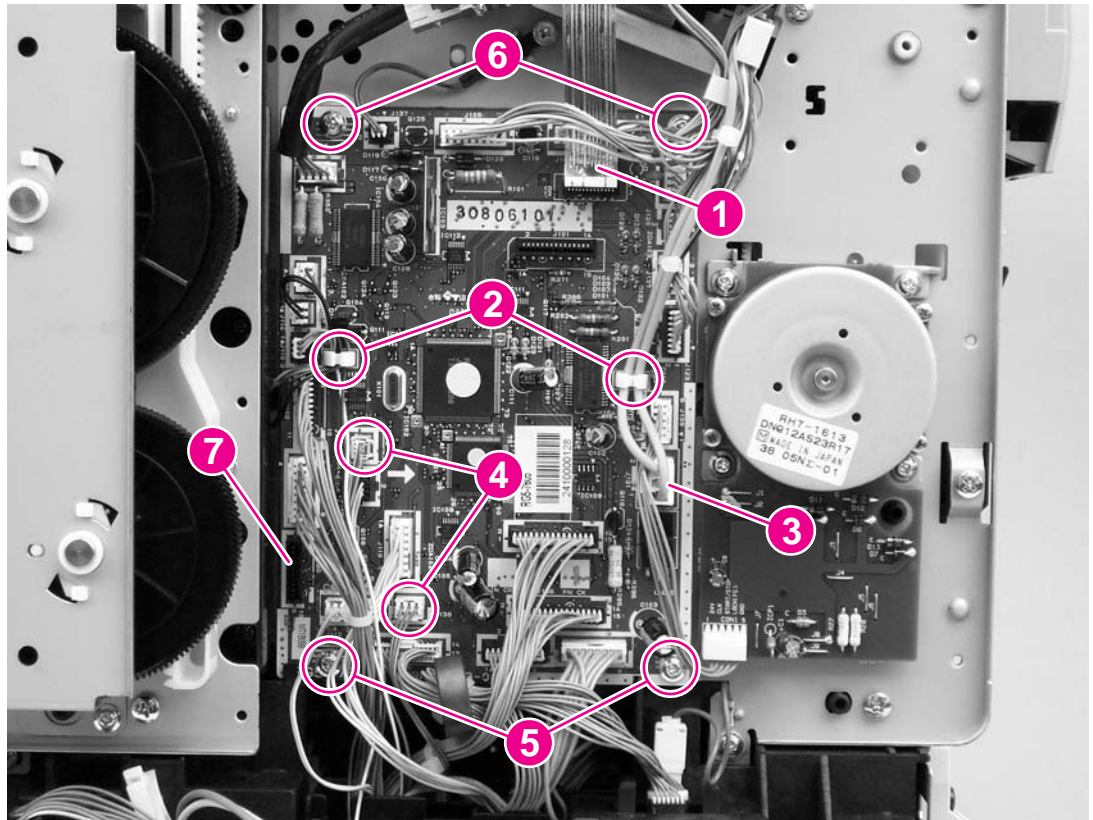

Figure 5-14.
5. Unplug two cable connectors (callout 4) by releasing a clip on each connector (see the detail in the lower-left corner of Figure 5-14. Removing the dc controller).
The connection that remains empty upon reinstallation is shown in callout 7 in Figure 5-14. Removing the dc controller. The connection is used to "flash" the dc controller.